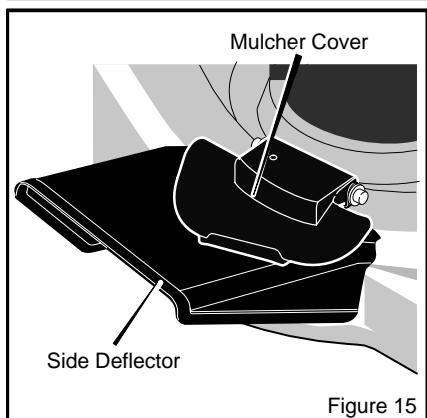

Figure 15
4. Lower the **mulcher cover** (Figure 15).